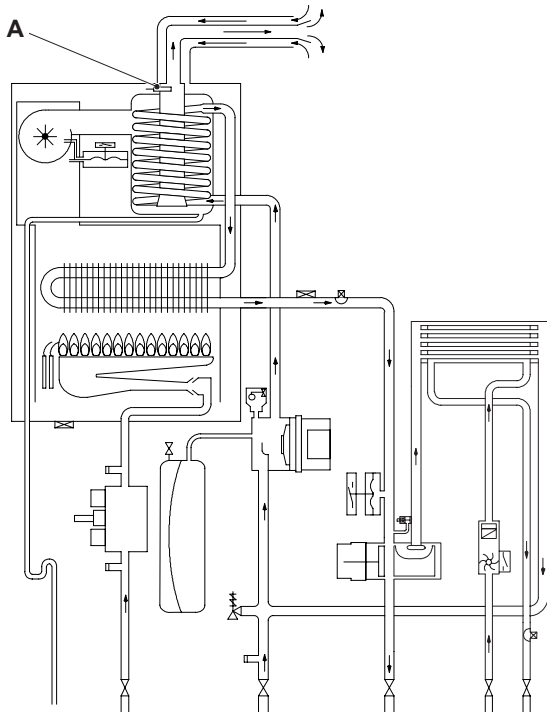
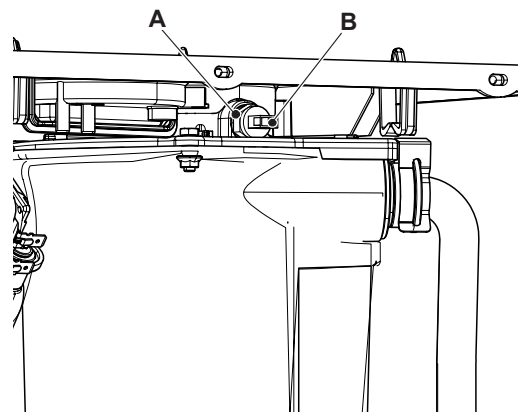

Figure 20.2
Figure 20.3
The Flue temperature probe NTC A in Figure 20.2 and Figure 20.3 senses the temperature of the combustion products that flow through the condensing heat exchanger.
- 2 Disconnect the wires B from the Flue temperature probe NTC (Figure 20.3).
- 3 Unscrew and remove the thermostat probe A (Figure 20.3) from the condensing heat exchanger.